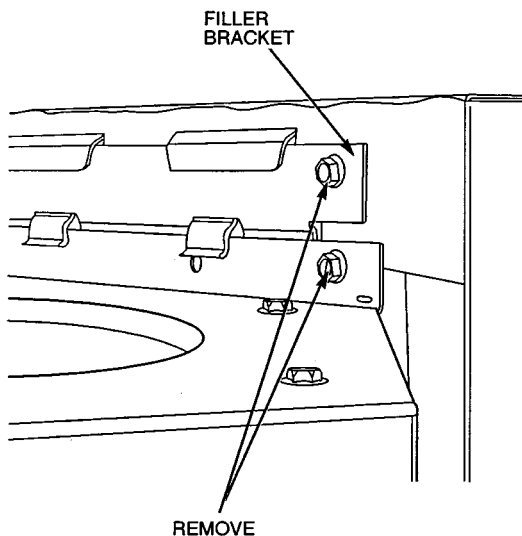

Fig. 20 — Blower Shelf and Housing
7. Remove screws (Fig. 20) securing evaporator blower housing to blower shelf and carefully slide out blower housing. There is a filler bracket attached to the blower housing; remove this filler bracket and retain for later use.
6. Remove screws (Fig. 20) securing evaporator blower housing to blower shelf and carefully slide out blower housing. Disconnect the plug assemblies (Fig. 24) from the evaporator-fan motor. There is a filler bracket attached to the blower shelf; remove this filler bracket and retain for later use. (See Fig. 24).